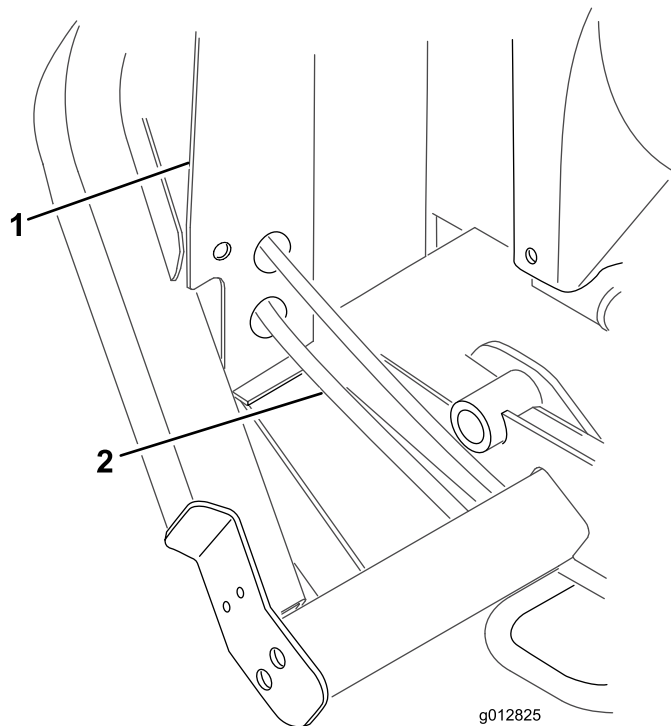

Figure 17
23. On the right side of the machine, just ahead of the radiator frame, place a drain pan under the oil cooler return hose (lower hose) (Figure 17).